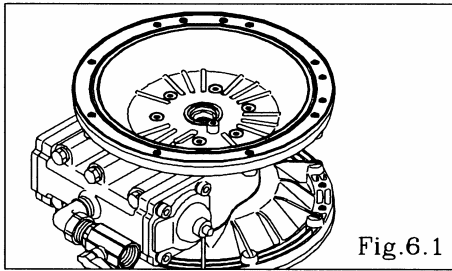

Fig. 6.1
- Remove the 12 retainer bolts from the air chamber, and remove the air chamber. [Fig. 6.1]